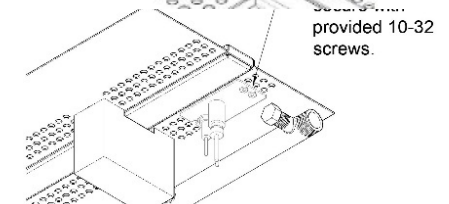

FIGURE 60
11. Insert the pilot assembly from underneath the existing burner pan to the area of the removed burner section. **Figure 60**